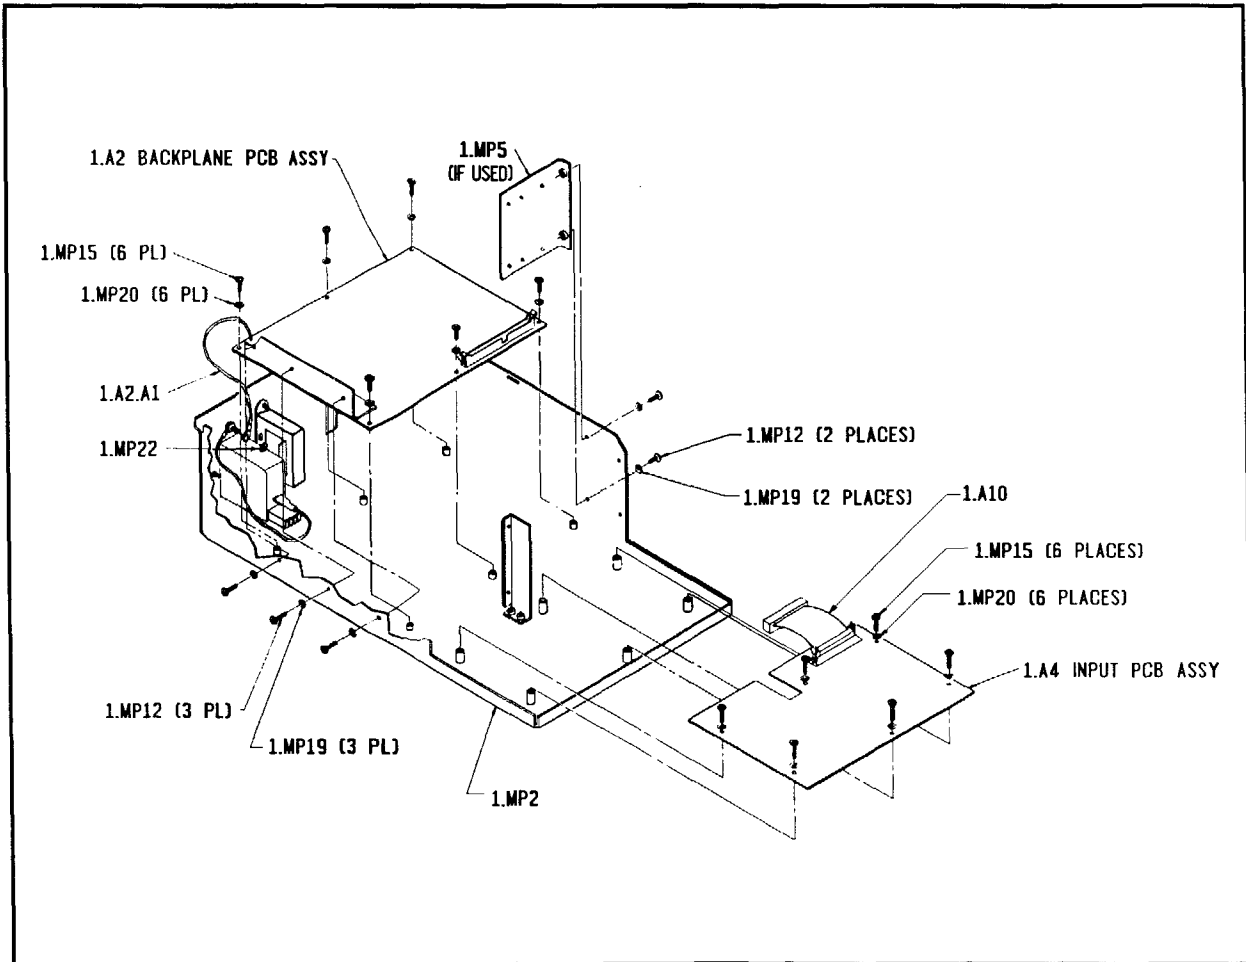

Figure 3-6. Backplane and Input PCB Removal.
7. Backplane PCB Removal (refer to Figure 3-6)
11. Input PCB Removal (refer to Figure 3-6)
2. Input PCB Assembly (Figure 3-6)
6. Backplane PCB Assembly (Figure 3-6)